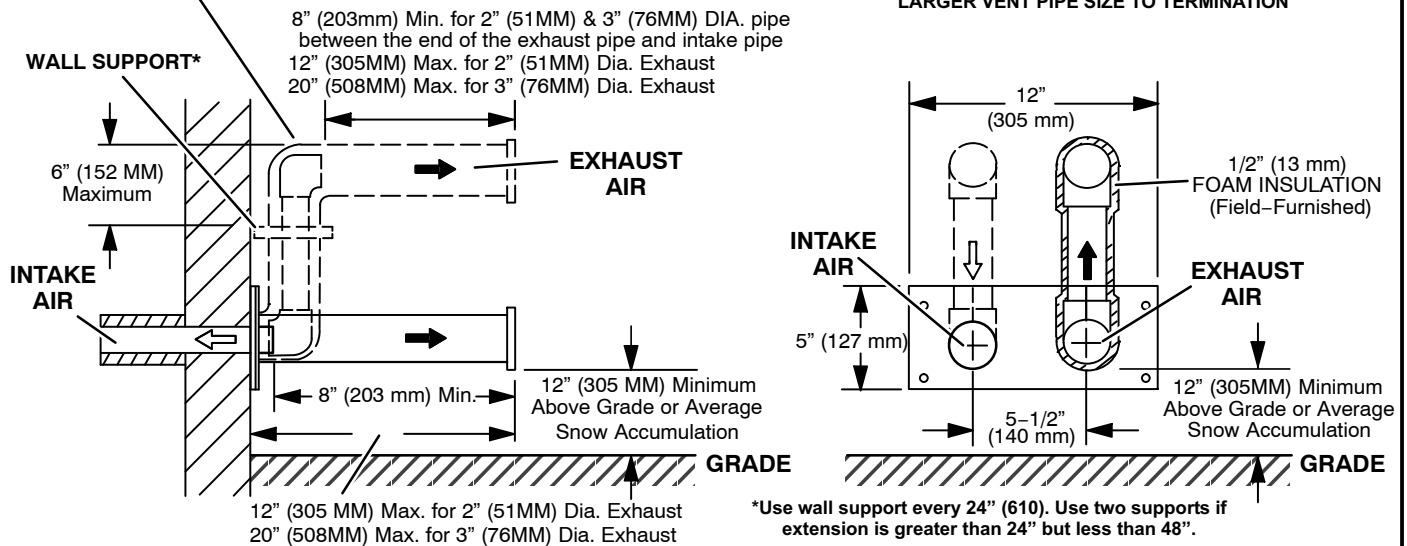

FIGURE 45
- 7 - If intake and exhaust piping must be run up a side wall to position above snow accumulation or other obstructions, piping must be supported every 24" (610MM) as shown in figures 37 and 38. In addition, close coupled wall termination kits must be extended for use in this application. See figures 45 and 46.